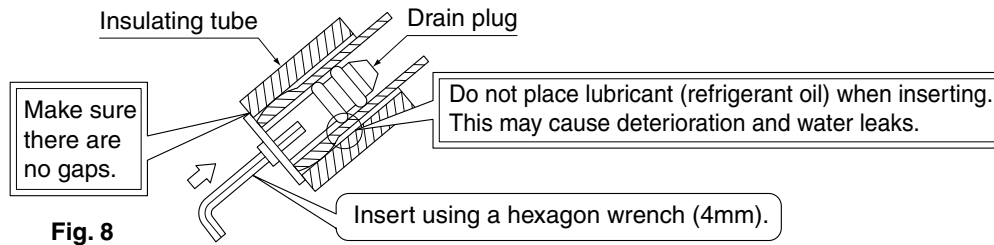

Fig. 8
- Remove the drain plug, the insulation tube, and the drain hose from the drain pan and replace. **(Refer to Fig. 8)**
- Connect the local refrigerant piping ahead of time, matching it to the liquid pipe and gas pipe marks engraved on the installation panel (accessory) (1).